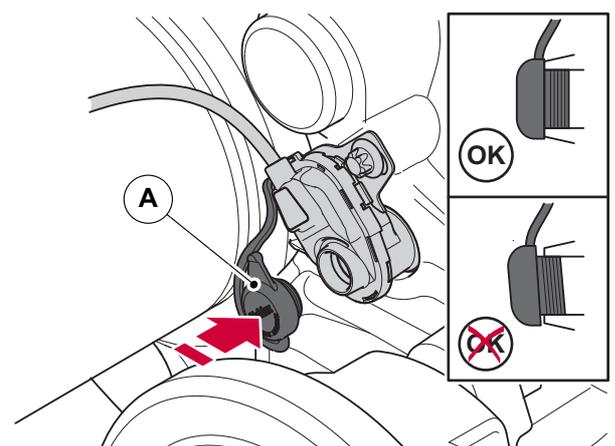

Figure 103. PWIS/PWS protection plug
Fit the reset shaft protective plug (A) into the sensor, ensure it is pushed fully into its correct sealing position (see figure 103). Failure to do so may compromise the life of the brake.